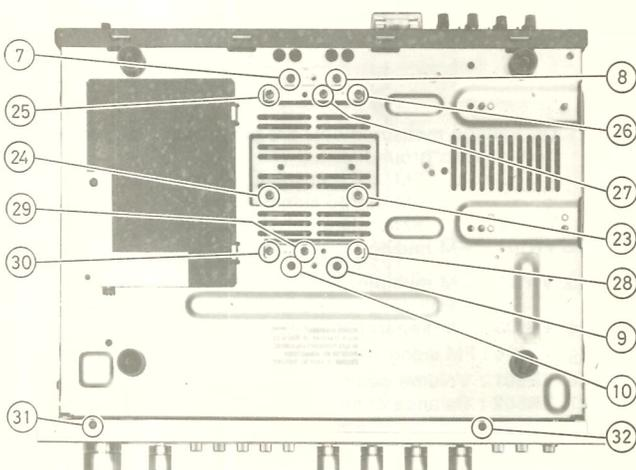
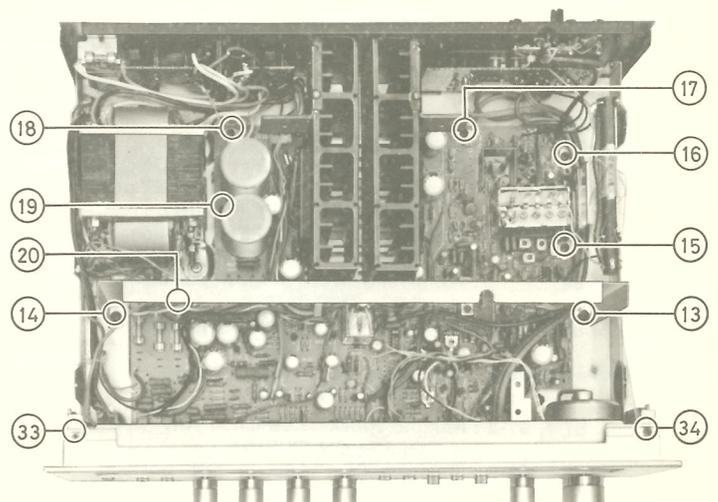

Fig. 4
Fig. 5
2. Remove four (4) heat sink-mounting screws, nos. ⑦~⑩ as shown in fig. 4.
4. Remove two (2) dial light reflection board-mounting screws, nos. ⑬ and ⑭ as shown in fig. 5.
5. Remove six (6) printed circuit board-mounting screws, nos. ⑮~⑳ as shown in fig. 5.
2. Remove two (2) IC cover-mounting screws of bottom board, nos. ⑲ and ⑳ as shown in fig. 4.
5. Remove ten (10) heat sink-mounting screws, nos. ⑦~⑩ and ㉕~⑳ as shown in fig. 4.
3. Remove four (4) front panel-mounting screws, nos. ①~④ as shown in fig. 4 and fig. 5.